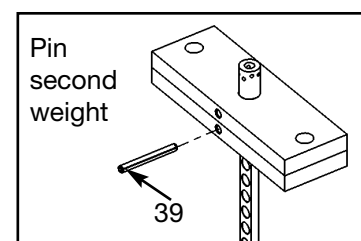

Figure 15
- K. Slide the top weight plate onto second plate and carefully pound the spring pin into the second weight plate hole, securing second plate to the top plate. See Figure 15. **NOTE:** *Insert pin so that it is flush with the weight plate.*